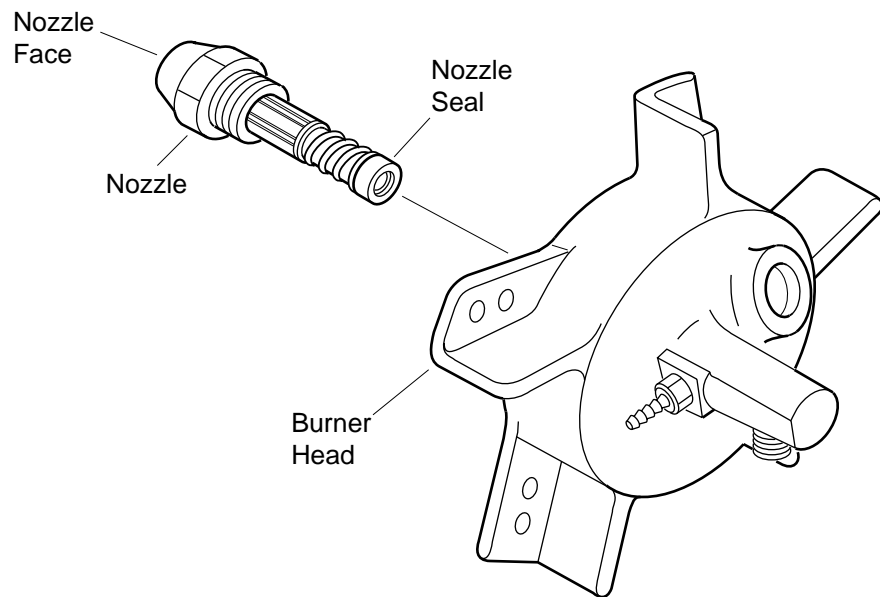

Figure 30 - Removing Nozzle, 150,000 BTU/Hr Model
9. Carefully remove nozzle from burner head using 5/8" socket wrench (see Figure 30).